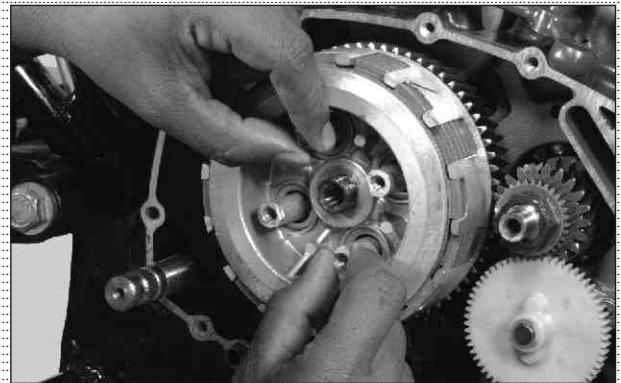

Fig. 3.12
- Pull out disc clutch pressure along with the hub clutch, plate clutch drive (5 nos) and plate clutch driven (4 nos) as a set. (Fig. 3.12)